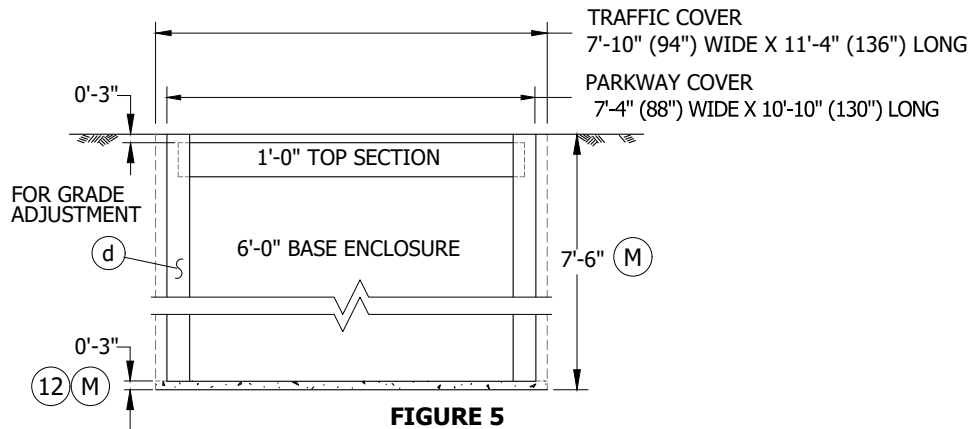

FIGURE 5
- B. AFTER THE LOCATION IS ESTABLISHED, MARK OUT DIMENSIONS FOR THE EXCAVATION WIDTH, LENGTH AND DEPTH PER FIGURE 5. THE WIDTH AND LENGTH DIMENSIONS GIVEN ALLOW AN EXTRA 8 INCHES FOR SETTING THE SUBSTRUCTURE.